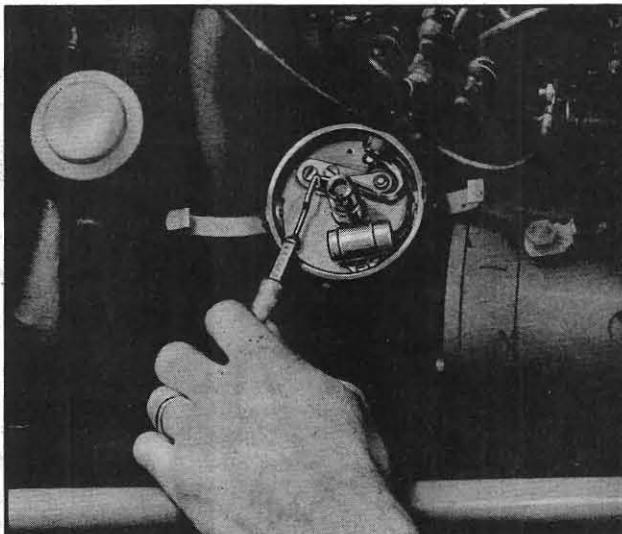

Fig. 214
5. Contact point spring tension is correct. The tension should be 17-21 ounces for TO-20 and TO-30 tractors, 20-24 ounces for the TE-20 tractor. This should be checked with a spring gauge hooked on the breaker lever at the center line of the point and at right angles to the breaker arm, Fig. 214. The